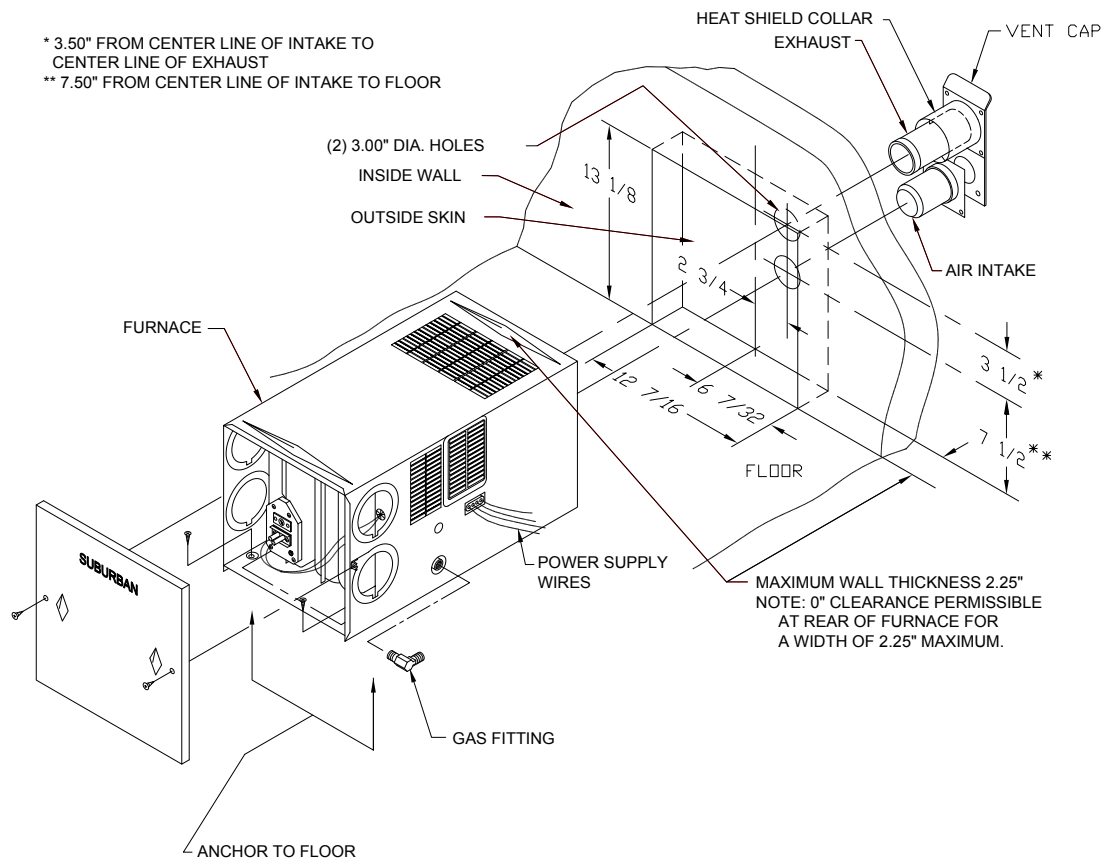

Figure 1
6. Secure furnace to the floor using the two (2) holes provided in the furnace cabinet. (See Figure 1.)
1. Be sure that the gas fitting is outside of the furnace jacket and easily accessible. (See Figure 1.) The fitting may be connected directly to the 90° elbow at the gas inlet to the furnace.